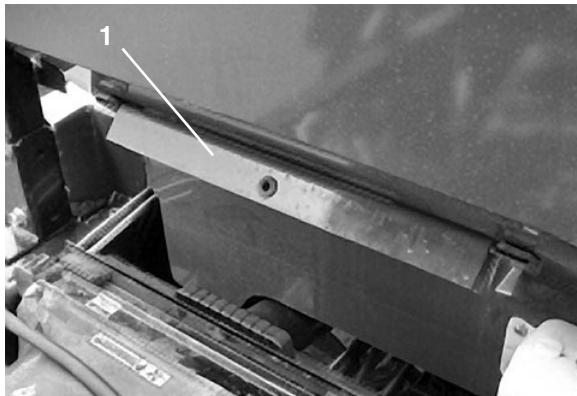

Figure 33
Using Bed Safety Support (Fig. 33 & 34)
2. Remove bed support from storage brackets on back of the roll-over protection panel (Fig. 33).